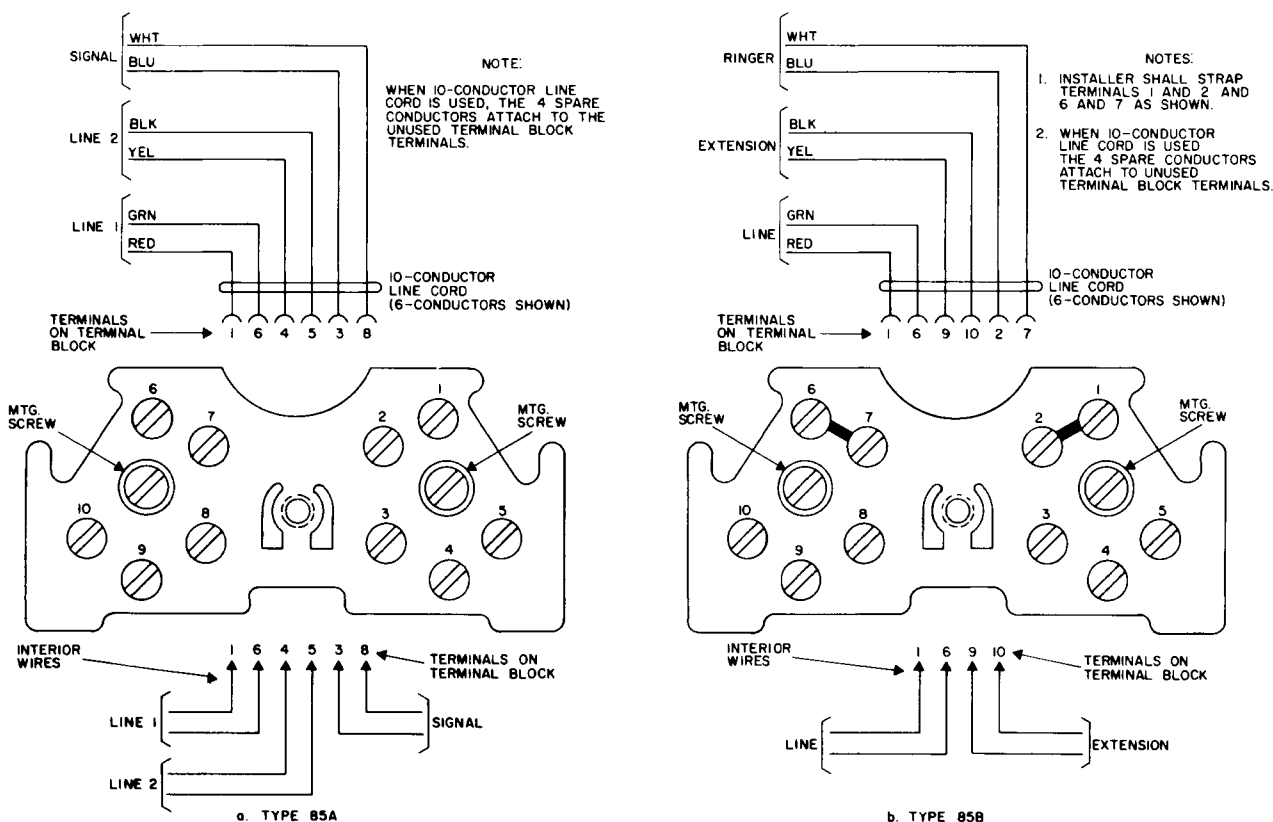

Figure 3. Standard terminal block wiring for self-compensating Type 85A and 85B telephones equipped with a 10-terminal, terminal block.
2.3 Self-compensating Type 85A and Type 85B telephones are supplied with one 10-terminal, terminal block. Figure 3 illustrates the standard connections at the terminal block for the line cord wires and interior wires.